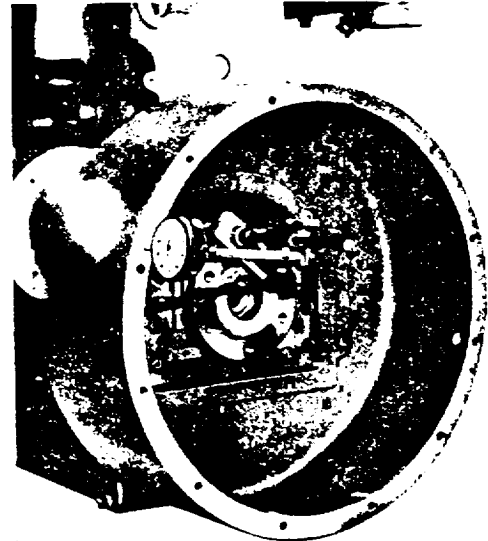

Fig. P.4.
4. With the gauge base still mounted in the same position adjust the stylus so that it is at right angles to the vertically machined rear face of the flywheel housing as shown in Fig. P.4. Turn the